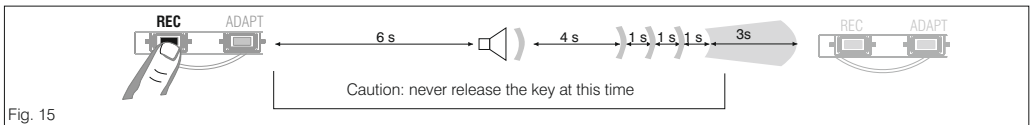

Fig. 15
- Press the "REC" key and hold it down until the end of the sequence of beeps shown in the figure 15, then release the key. The transmitter coupling is thereby erased from the memory.